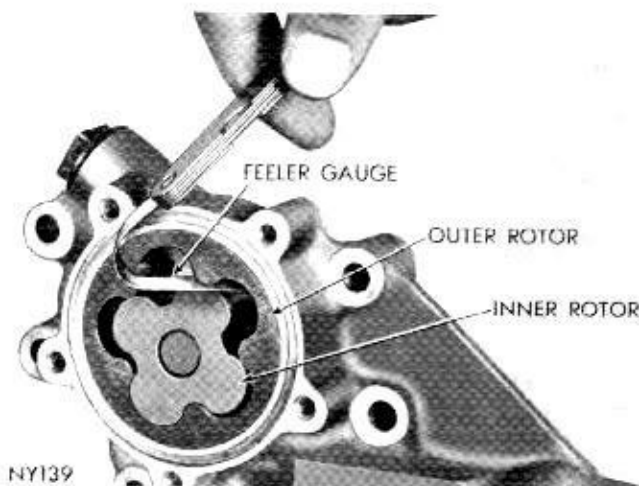

Fig. 52—Measuring Clearance Between Rotors
(7) If clearance between inner rotor and outer rotor (Fig. 52) is more than .010 inch, replace inner and outer rotors.
(8) Inspect oil pump relief valve plunger for scoring and for free operation in its bore. Small scores may be removed with 400 grit wet or dry paper.
(9) For 225 cubic inch engines the relief valve spring has a free length of 2-9/32 to 2-19/64 inch and should test 14.85 to 15.85 lbs. when compressed to 1-19/32 inch. Discard spring that fails to meet specifications.
(10) If oil pressure is low, inspect for worn bearings, or look for other causes of possible loss of oil pressure.